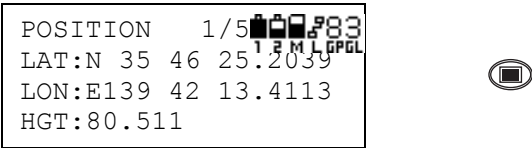

Figure 3-20. Current Display and Menu Key
1. Press the menu key, initiating the menu mode (Figure 3-20).